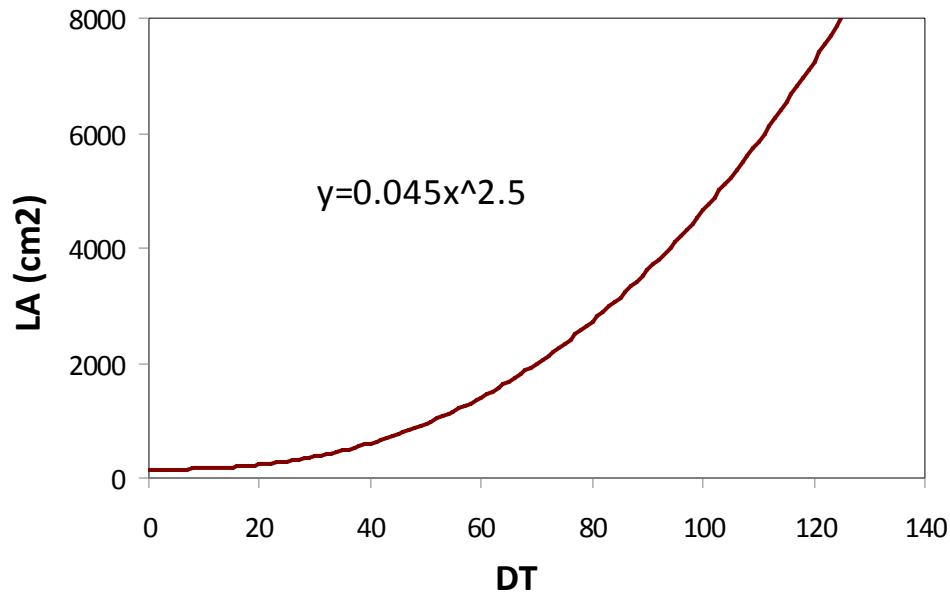

Fig. 3. Relationship between development time (DT) and potential sink-limited leaf area growth LA for *V. odoratissimum*.
A power function is used to relate sink-limited leaf area growth to development time (DT). (Fig. 3). The derivative of the function is used to calculate daily leaf area growth based upon RDT:
where  $LGC1$  and  $LGC2$  are 0.045 and 2.5, respectively. The power function suggests that growth proceeds exponentially but in most cases growth becomes limited by photosynthesis (source) so that actual LA growth will be less than potential as indicated in Fig 3. As such DT is modified based on actual LA so that the derivative function is based upon actual LA instead of potential LA. The modified DT ( $DT1$ ) to accomplish this is calculated with: